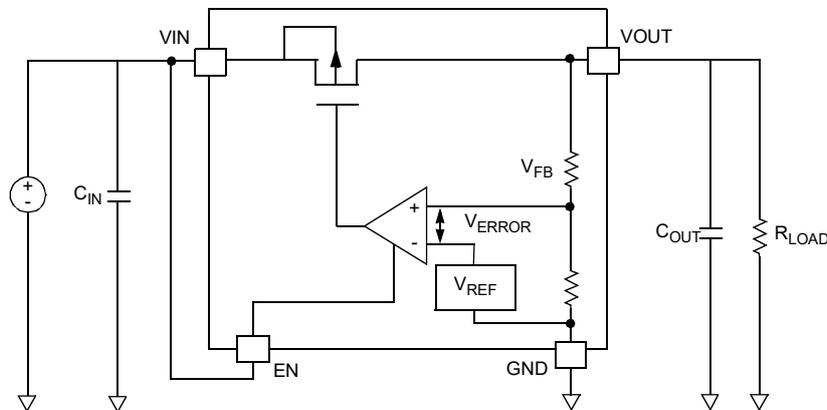

Figure 24. Simple PMOS LDO Regulator Block Diagram
Like the majority of LDOs with a PMOS pass transistor, the RRP58000 DC output voltage (V_{OUT}) regulation can be modeled with a voltage reference (V_{REF}), PMOS pass-transistor, error amplifier, and feedback (FB) resistors as shown in Figure 24.